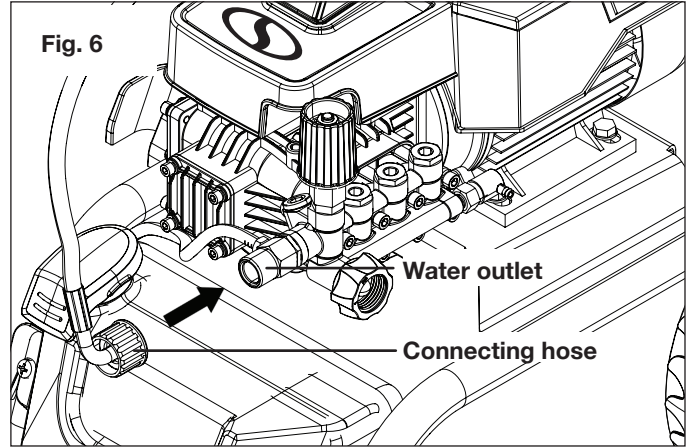

Fig. 6
6. Connect the other end of the connecting hose to the water outlet (Fig. 6).